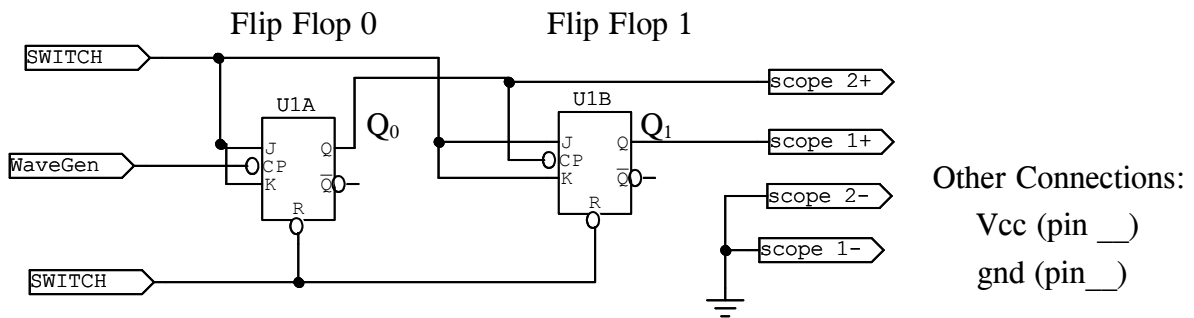

Figure 6, Asynchronous Binary Counter
(1) Interconnect the two halves of the 7473 as shown in figure 6, below.